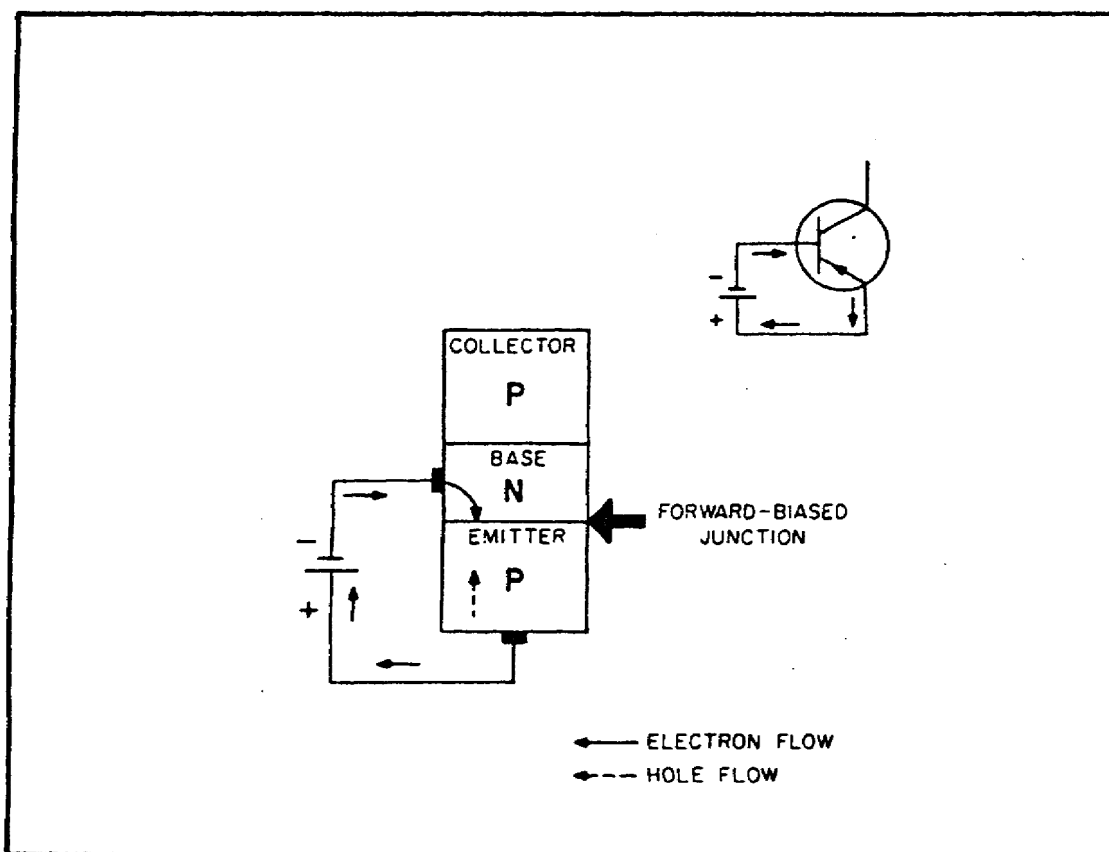

FIGURE 93. FORWARD-BIASED JUNCTION IN A PNP TRANSISTOR.
(1) *PNP Forward-Biased Junction.* What happens when the emitter-base junction in figure 93, on the following page, is forward biased. With the bias setup shown, the positive terminal of the battery repels the emitter holes toward the base, while the negative terminal drives the base electrons toward the emitter. When an emitter hole and a base